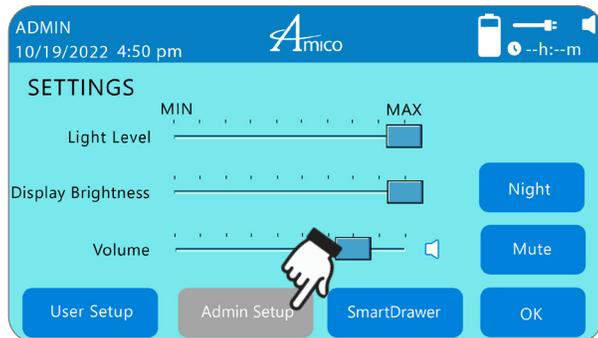

Figure 57
Tap on **“ADMIN SETUP”** (Figure 57) to access the configuration options for administrator (Figure 60). Tap **“SAVE”** after adjusting.
**i NOTE:** SMARTDRAWER BUTTON (FIGURE 57) IS ONLY APPLICABLE TO CARTS THAT COME WITH SMARTDRAWERS. IF THE CART COMES WITH SMARTDRAWERS, REFER TO THE HUMMINGBIRD MOBILE COMPUTER WORKSTATION SMARTDRAWER USER MANUAL.